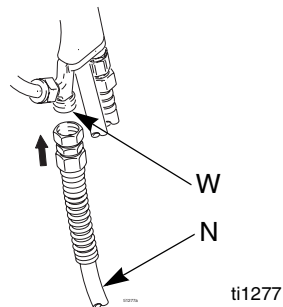

FIG. 6
4. Connect the fluid line to the 3/8 npsm gun fluid inlet (W) (FIG. 6).